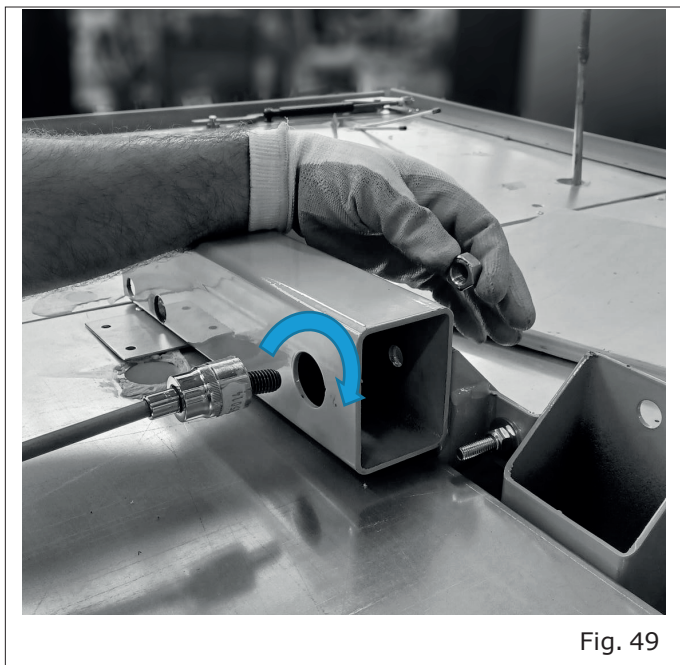

Fig. 49
- Fix the upper spar of the head cabinet to the gongola support structure with the screw and nut ("Fig. 49). Before tightening the bolt, adjust the height of the head cabinet.